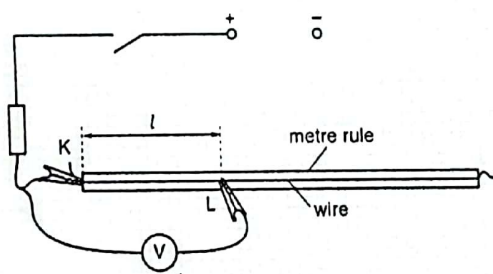

Fig. 3.1
- (b) (i) Use the wire attached to the metre rule, one of the voltmeters and one of the resistors to set up the partial circuit shown in Fig. 3.1.